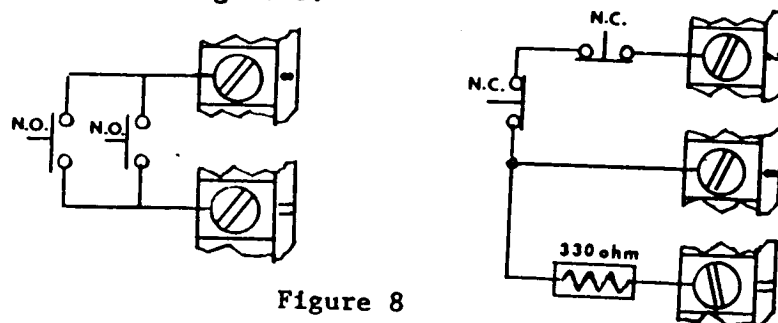

Figure 8
- Ch. 5 - Channel 5 will operate with (N.C.) or (N.O.) contacts but not both. Connect as shown in Figure 8.